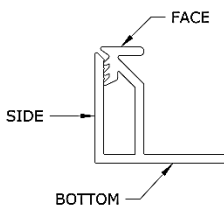

Fig. 3.1
- 1. Spray 3m77 adhesive on side and bottom of track – do not spray face of track (fig. 3.1).